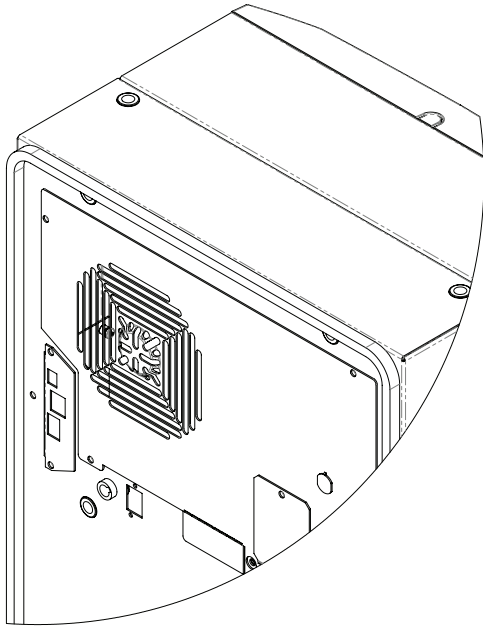

Figure 1
1. Using the mounting gasket kit provided with the unit, install gasket to the air conditioner, see Figure 1.